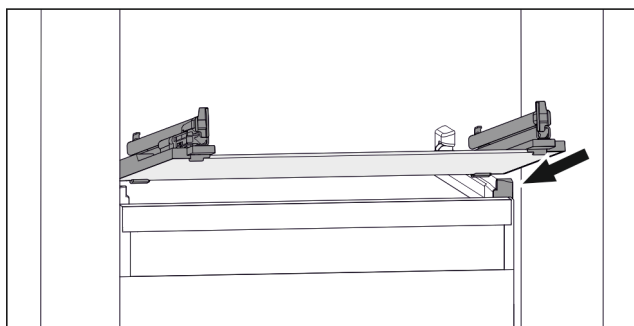

Fig. 106 Example illustration of glass shelf
- ▶ Position glass shelf at an angle behind the stoppers. (see Fig. 106)